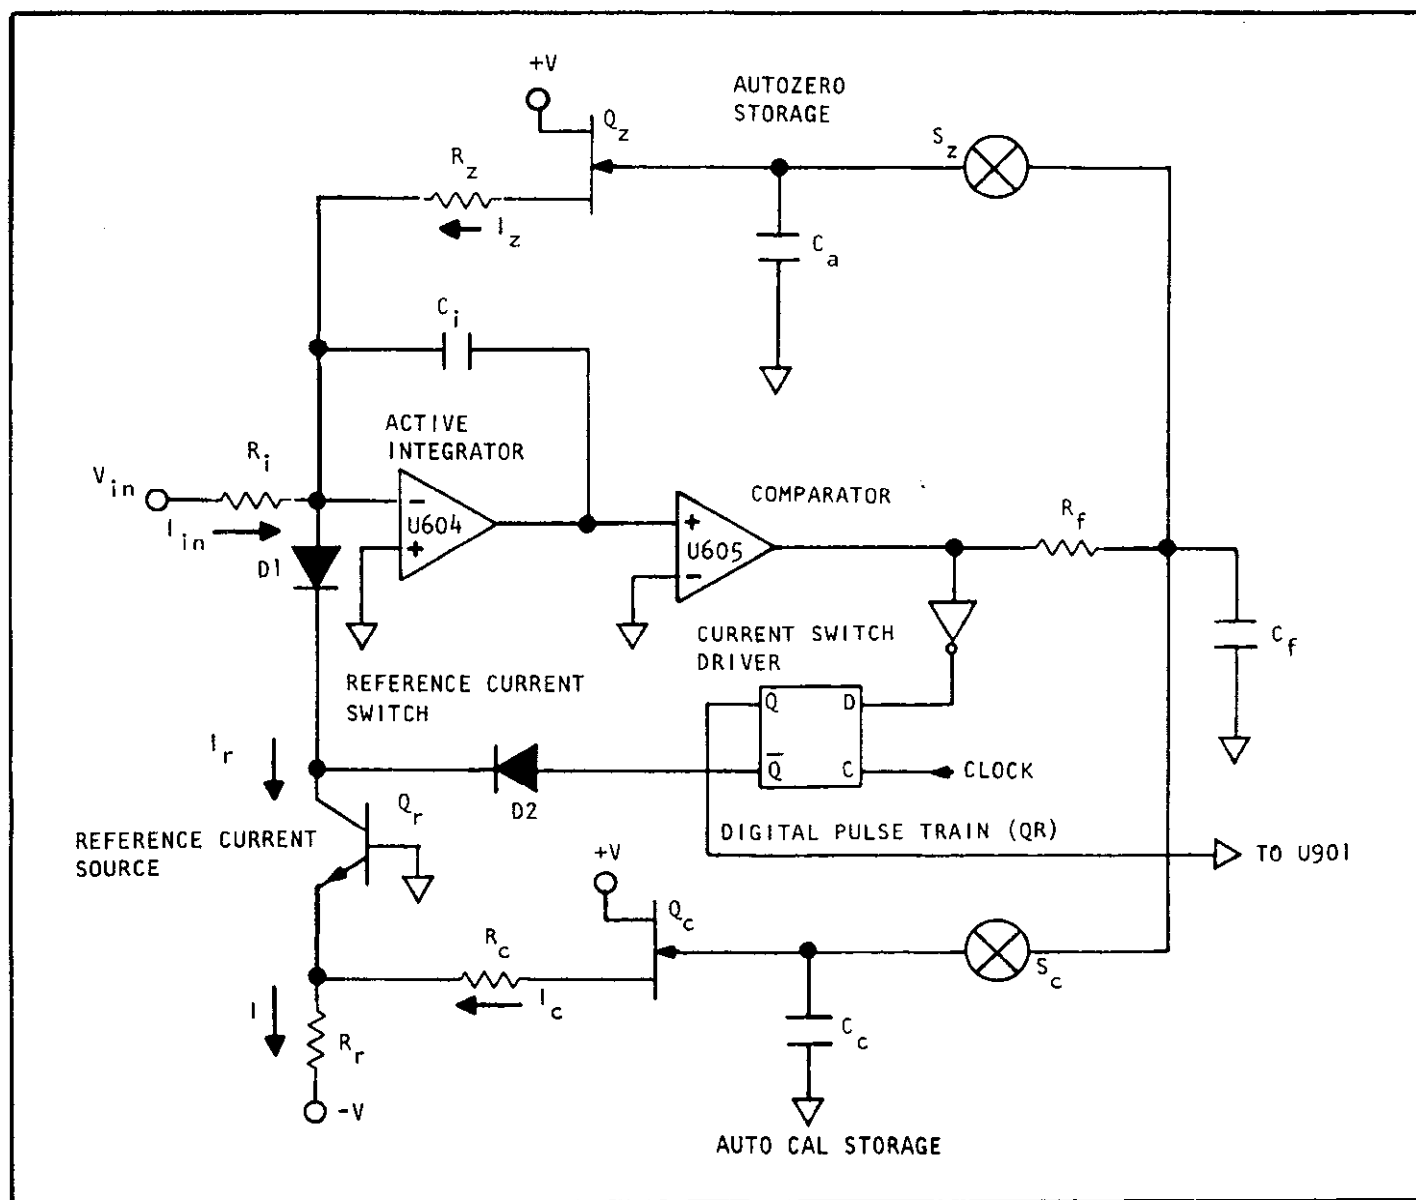
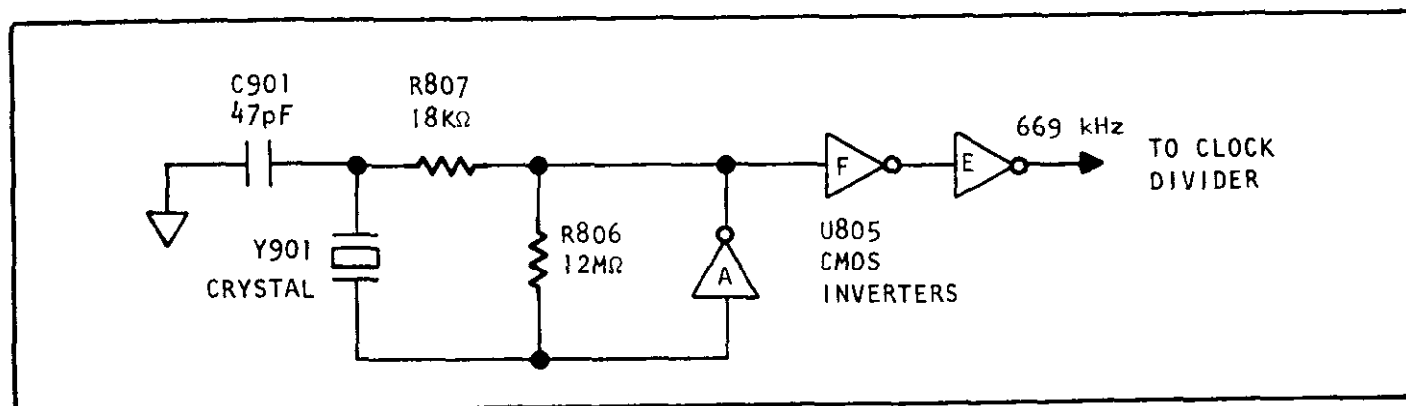

FIGURE 5-14. Simplified Schematic of the A/D Converter.
FIGURE 5-15. Simplified Schematic of 669 kHz Oscillator.
e. A/D Converter Simplified Schematic Description (Figure 5-14).
5) In the reference current circuit, the base of Q_R is referenced to ground and the emitter resistor R_2 connects to a negative voltage ($-V$). The current through R_2 (I) is approximately equal to $I_R + I_C$ (neglecting base current of Q_R). Since I is constant, I_R will vary inversely with respect to a change of I_C .
f. Oscillator. The oscillator (shown in Figure 5-15) is crystal controlled and operates at approximately 669 kHz. It is divided down 2:1 to produce the A/D converter clock. The oscillator runs at twice the clock rate for the following two reasons: